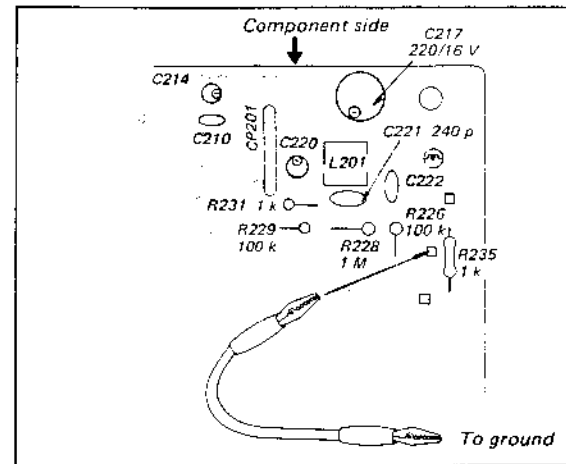

Fig. 3-1. Interruption of AFC circuit.
Short the AFC circuit to ground as shown in Fig. 3-1.
Short the AFC circuit to ground as shown in Fig. 3-1 on Page 9.
1. Short the AFC circuit to ground as shown in Fig. 3-1.